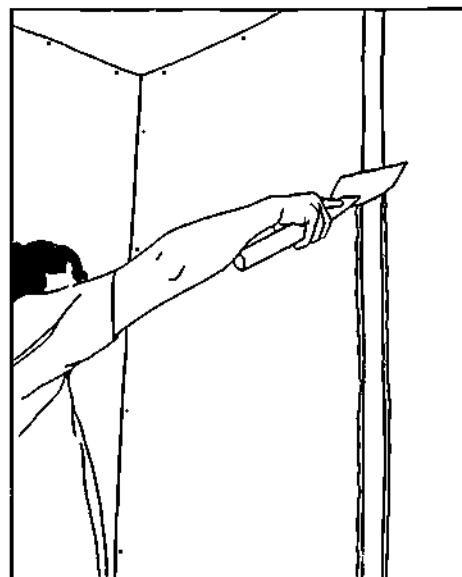

Figure 4-28
3. From the top pull the knife down to the bottom end of the tape at the flat joint (Figure 4-28).